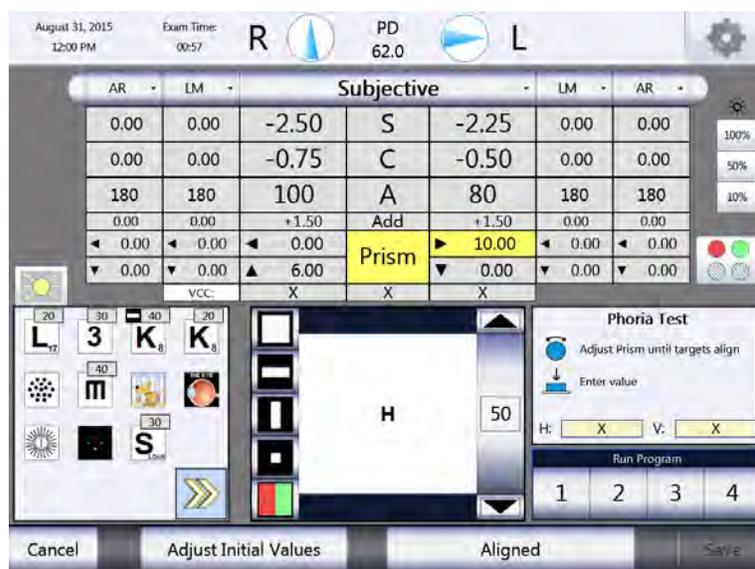

Figure IU-27, Horizontal Phoria Test Screen
1. Select an appropriate test chart of a single vertical line of optotypes or a single optotype. (Please refer to Figure IU-27.)